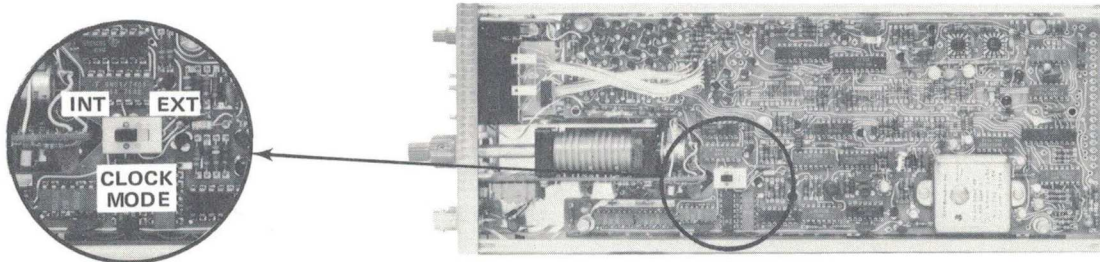

Fig. 2-11. Internal/External clock switch.
1. Apply one of the signals to be compared to the EXT CLOCK IN connector using one of the cables supplied with the 7D15. This signal is usually a standard to which the other signal is compared. Move the internal Clock switch toward the rear of the plug-in to the External clock position, see Fig. 2-11. *Refer internal Clock switch changes to qualified service personnel.*